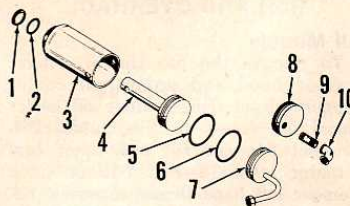

Fig. C18—Exploded view of model H30 or J30 hydraulic lift cylinder used on some tractors. Items 8, 9 and 10 are used on model H30 cylinder.
OVERHAUL (H30 or J30). Drain the oil from the cylinder and disassemble as follows: Clean all paint and/or rust from inside the base end of cylinder tube (3—Fig. C18). Push piston and rod assembly and end plate (7 or 8) out of the cylinder tube. Remove "O" ring (5) from piston, "O" ring (6) from end plate (7 or 8) and wiper seal (1) and "O" ring (2) from cylinder tube.